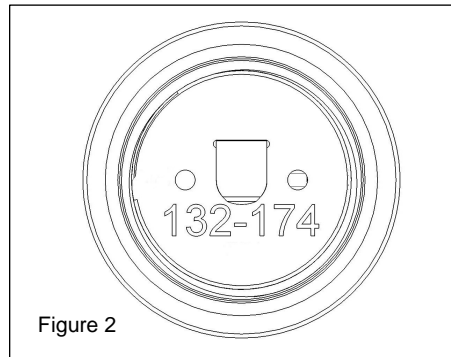

Figure 2
#### 3. Pre-Installation (Figure 2):
- Ensure O-ring is properly seated within O-ring groove as shown in Figure 2.
- Important:** Verify proper operational frequency is stamped on the base of the coil as shown in Figure 2.